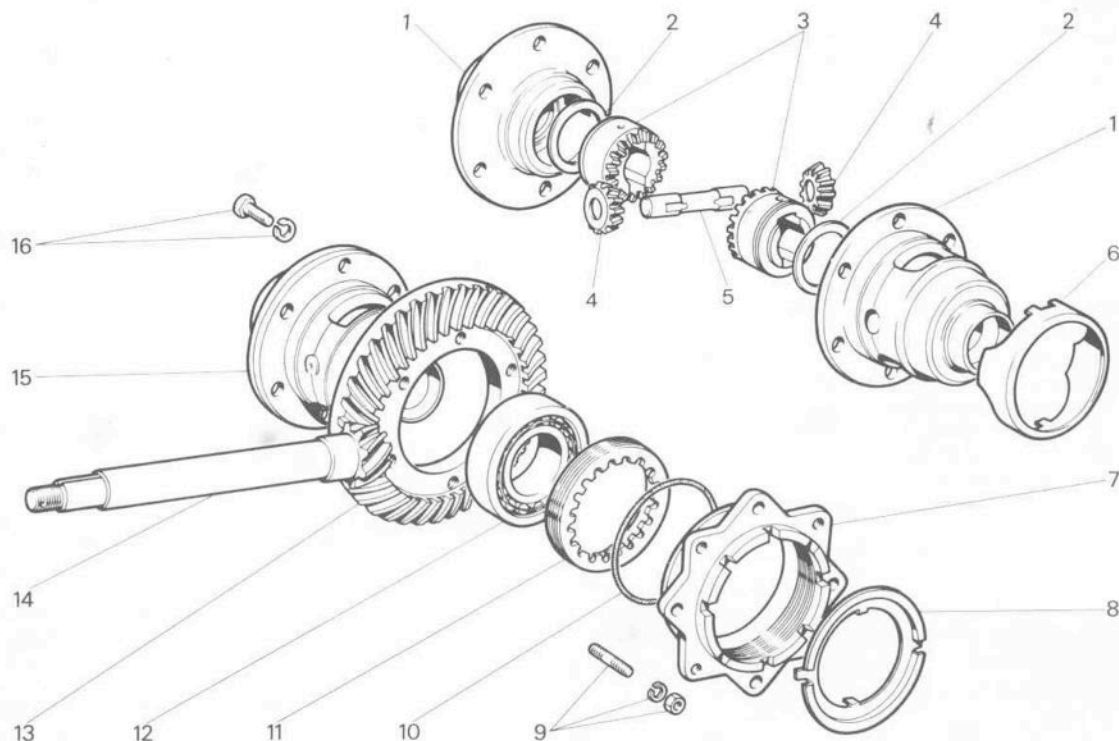

FIG 6:11 Components of the final drive and differential
Insert the pinion shaft into the various inside components in the order shown in FIGS 6:5 and 6:9. Fit the front bearing retainer and tighten the cross-head screws with an impact hammer. Insert the mainshaft, couple up the input shaft after fitting the rear bearing and then fit the front bearing. For the front end of the countershaft, assemble the second-speed gear 5 on the shaft, followed by the synchromesh assembly 7 and 8 (see FIG 6:7). Before fitting the synchromesh assembly, slide
**Key to Fig 6:11**